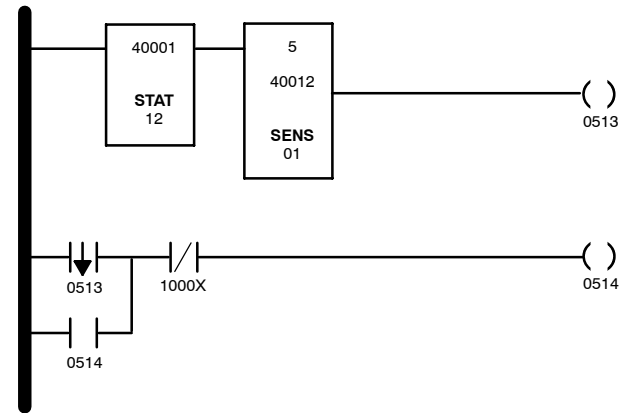

Figure 1 User Logic Example to Detect Module Overload Condition
2. The module restarts field devices automatically when the output is set ON in the User Logic and the detected field over current condition is removed. Refer to the user logic example in Figure 1 if detection and manual reset is still desired.
In Figure 1, a STAT function is used to read 12 registers of which register 12 is the status word for the modules in the primary rack 1. The BDAP-216N has been placed in slot number 5, so a SENS function block is used to sense bit 5 of this register. The output is tied to coil 0513 which turns OFF when the module becomes unhealthy. To trap this condition even if coil 0513 turns ON again, it is latched into coil 0514. This coil can then be used by the programmer as an enable/disable to ladder logic associated with the BDAP-216N in this particular slot and particular process. The user logic is restarted by the operator pressing a button attached to input 1000X.